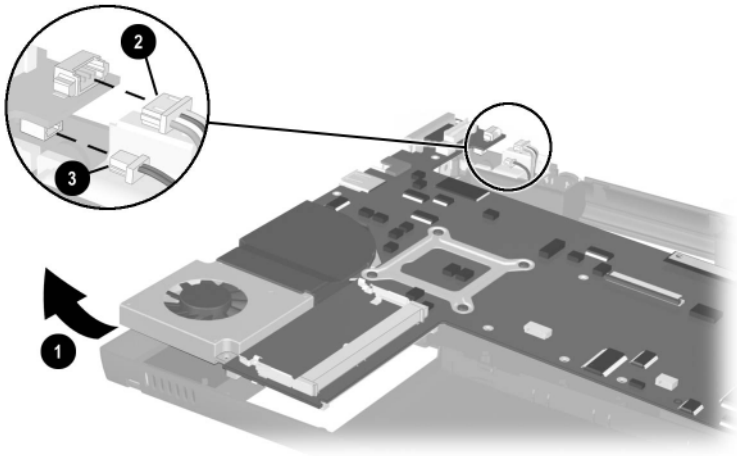

Figure 5-34. Disconnecting the External Battery Terminal and NTSC Module Cables from the System Board
14. Use the fan and heat sink assembly to lift up and hold the right side of the system board ❶ until the external battery terminal ❷ and NTSC module cables ❸ clear the base enclosure (Figure 5-34).